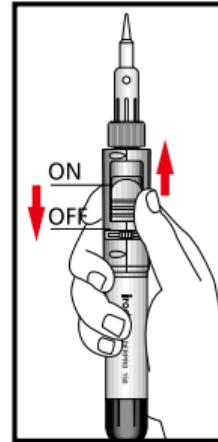

Fig.5
**Slowly** slide up the **ON/OFF Ignition Switch** (Fig. 5) to the "**ON**" position to start the flow of gas.